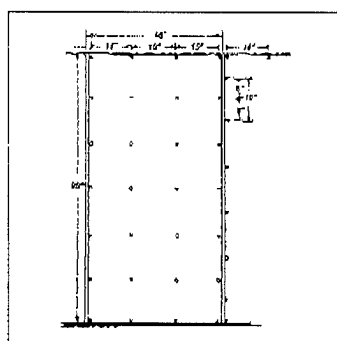

Figure 10
- Remove any adhesive residue upon completion of the job. To remove latex-based adhesive, clean with a non-abrasive cotton cloth and warm water. If necessary, use a mild, non-abrasive detergent. For best results, change water and cleaning rags frequently. For clean-up with solvent based adhesives, use mineral spirits or acetone to remove residue (Figure 10).